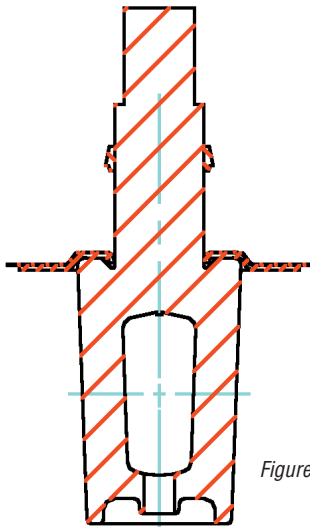

*Figure 20*
7. The Grafoil packing ring (Part 17) is placed over the stem (Figure 20).